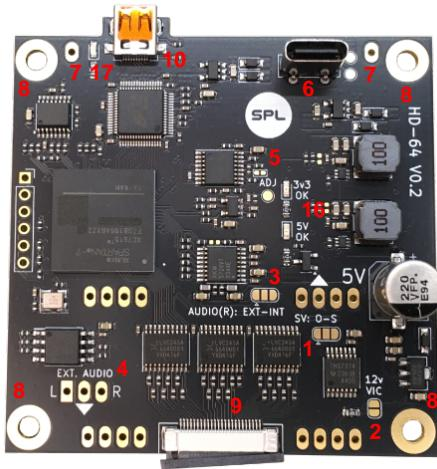

Figure 4. HD-64 Legend (Top)
1. Once the steps in Section 3.3 have been carried out and **before** performing any other step, turn on the computer and verify that both power leds are turned on (Item 16 in Figure 4).
3. (optional) In order to permanently fasten the HD-64 to the motherboard, drive a long pin or a piece of wire through the retainer pins close to the rear of the HD-64 (Item 7 in Figure 4) and solder one end to the top of the HD-64, and the other end to the exposed ground plane on the motherboard. (It is generally necessary to remove the motherboard from the case to perform this step)
Once all the steps in Section 3.3, Section 3.4 and Section 3.5 have been performed turn on the computer. The status LED next to the HDMI connector (Item 17 in Figure 4) should turn solid-green. If this does not happen this might indicate that the flat cable is not connected properly.
The jumper denominated "AUDIO ® EXT-INT" (Item 3 in Figure 4) controls whether the right audio channel receives the signal coming from the motherboard or the one coming from the "EXT. AUDIO" header (Item 4 in Figure 4). The right audio channel **receives no signal** until one side of the jumper has been closed.
The jumper denominated "SV: O-S" (Item 1 in Figure 4) determines whether the amplitude of the chroma signal (on the S-Video analog output) matches that of an original RF-Modulator, or if it should have the lower "standard-compliant" amplitude. **No chroma is available** on the S-Video analog output until one side of the jumper has been closed.
The jumper denominated "12v VIC" (Item 2 in Figure 4) should be closed when a 12v VIC-II is being used (VIC-II models 6567 & 6569).
In the unlikely case that the performance of the video synchronization circuit drifts over time, to the point that synchronization is no longer obtained (HDMI video output absent or unstable) it is possible to close the jumper denominated "ADJ" (Item 5 in Figure 4) to bring the synchronization circuit back within the optimal range of operation.